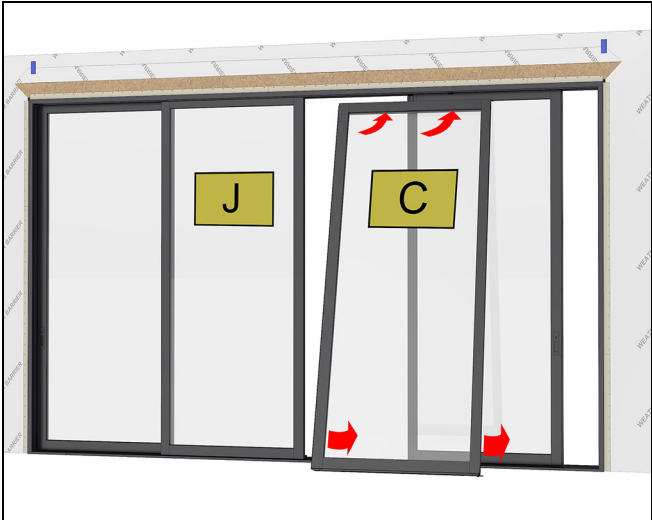

Figure 169 XOOX
11. Install the (C) stationary panel. Slide the panel up tight against the (J) stationary panel. See Figure 169.